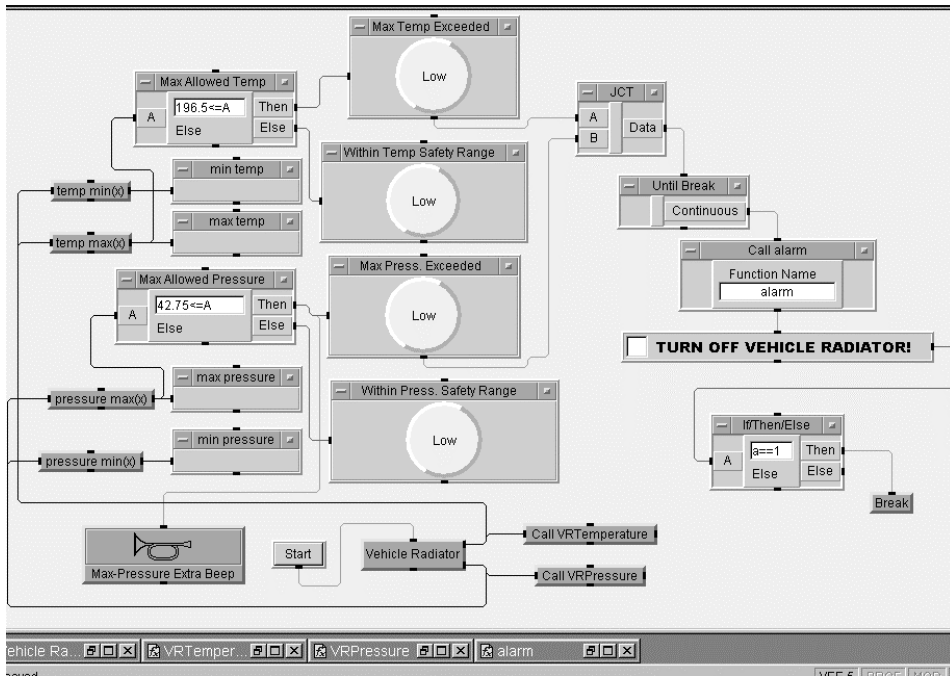

Figure 14.18. Lab14-4 before running
53. Open its Properties box; go to Fonts; select Arial Black, size 14 Italics for both the Title and Object boxes; place checkmarks in Layout Scaled and Initialization: Initialize at PreRun with an initial value of zero (0); change its title to: **TURN OFF VEHICLE RADIATOR!**
58. Verify your object locations, titles, and connections via Figure 14.18.